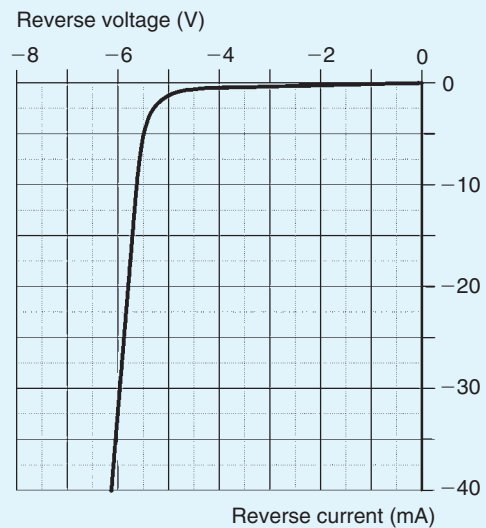

Figure 11.21
- The graph shown in Fig. 11.21 was obtained during an experiment on a Zener diode. (a) Estimate the Zener voltage for the diode. (b) Determine the reverse voltage for a reverse current of -20 mA. (c) Determine the reverse current for a reverse voltage of -5.5 V. (d) Determine the power dissipated by the diode when the reverse voltage is -6 V. [(a) 5.6 (b) -5.8 V (c) -5 mA (d) 195 mW]